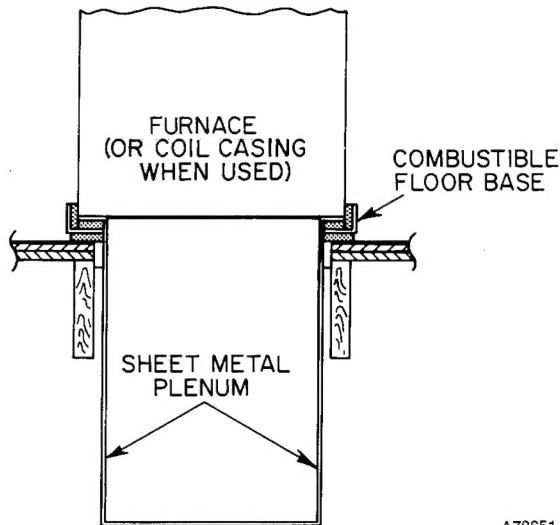

Fig. 6—Furnace, Plenum, and Base Installed on a Combustible Floor
- When completed, combustible floor base, plenum, and furnace (or coil casing when used) should be installed as shown in Fig. 6.